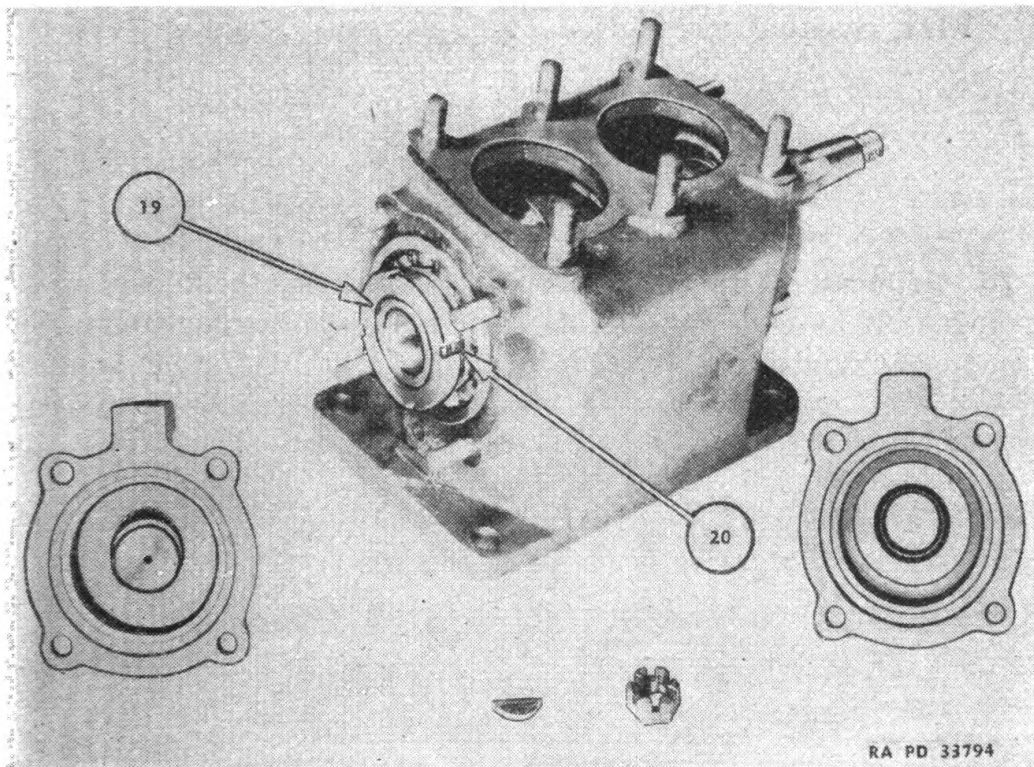

FIGURE 77.—Crankshaft and case assembly.
70. Crankshaft base assembly.—Remove front and rear end covers. Replace oil seals in front cover if worn. Install leather seal with the wiping edge “in”. Remove lock nut (19) (fig. 77) and lock (20) to remove the crankshaft. When assembling, pull lock nut up tight and lock in position.